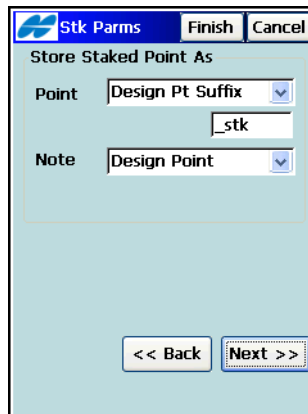

Figure 3-67. Stakeout Parameters - Second Screen
- **Next** – opens another *Stk Parms* screen (Figure 3-67 on page 3-68).
The second (additional) *Stk Parms* screen (Figure 3-67 on page 3-68) sets parameters to save staked points.